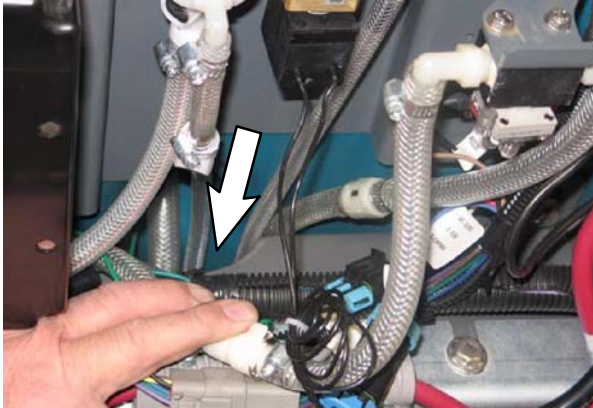

FIG. 2
- Route all hoses connected to the ec-H2O assembly down through the recess in the solution tank, between the solution tank and recovery tank, and down to the floor. (Fig. 2)